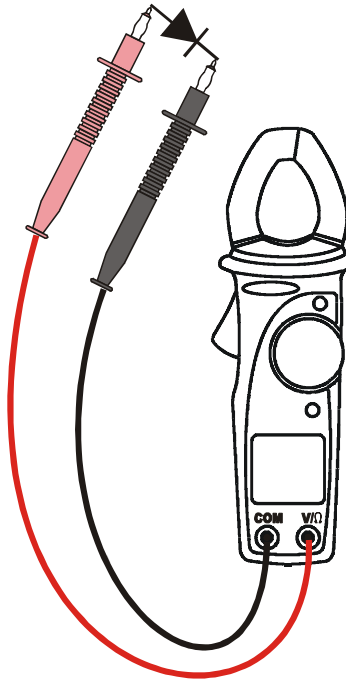

Fig. 9: Use of clamp for diode test
2. Insert the test leads into the jack, the red plug into V/Ω jack, and black plug into COM jack, like showed in Fig. 9.